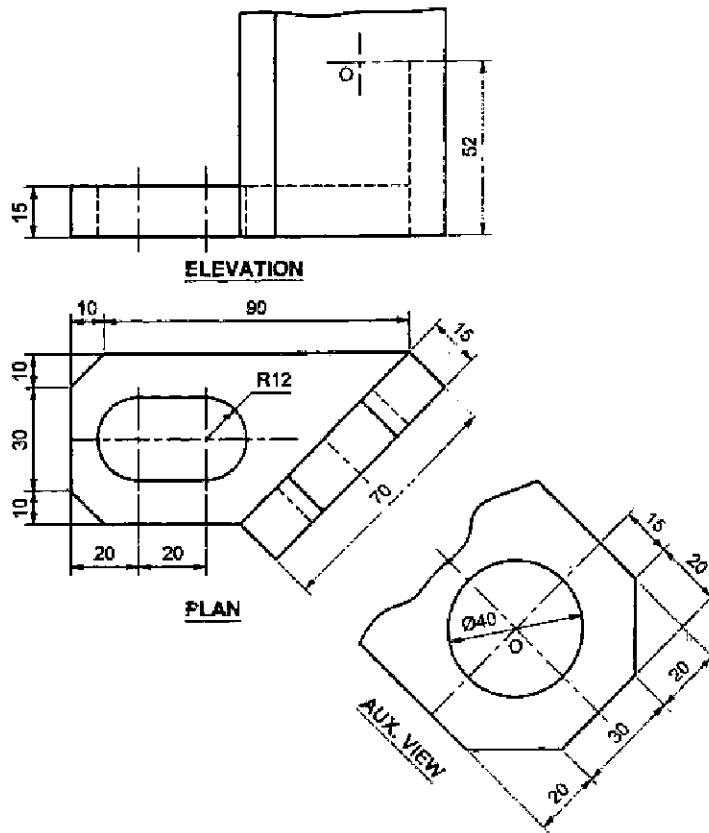

Figure 3
5. Figure 3 shows incomplete F.V, top view and partial auxiliary front view :